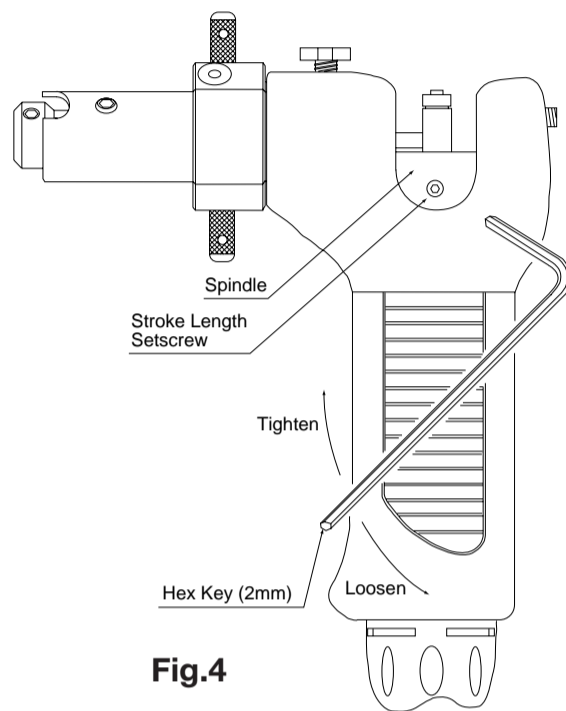

Fig.4
- Loosen the stroke length setscrew with the hex key (2 mm). (See fig.4)
- Tighten the stroke length setscrew with the hex key (2 mm). (Fig.4)